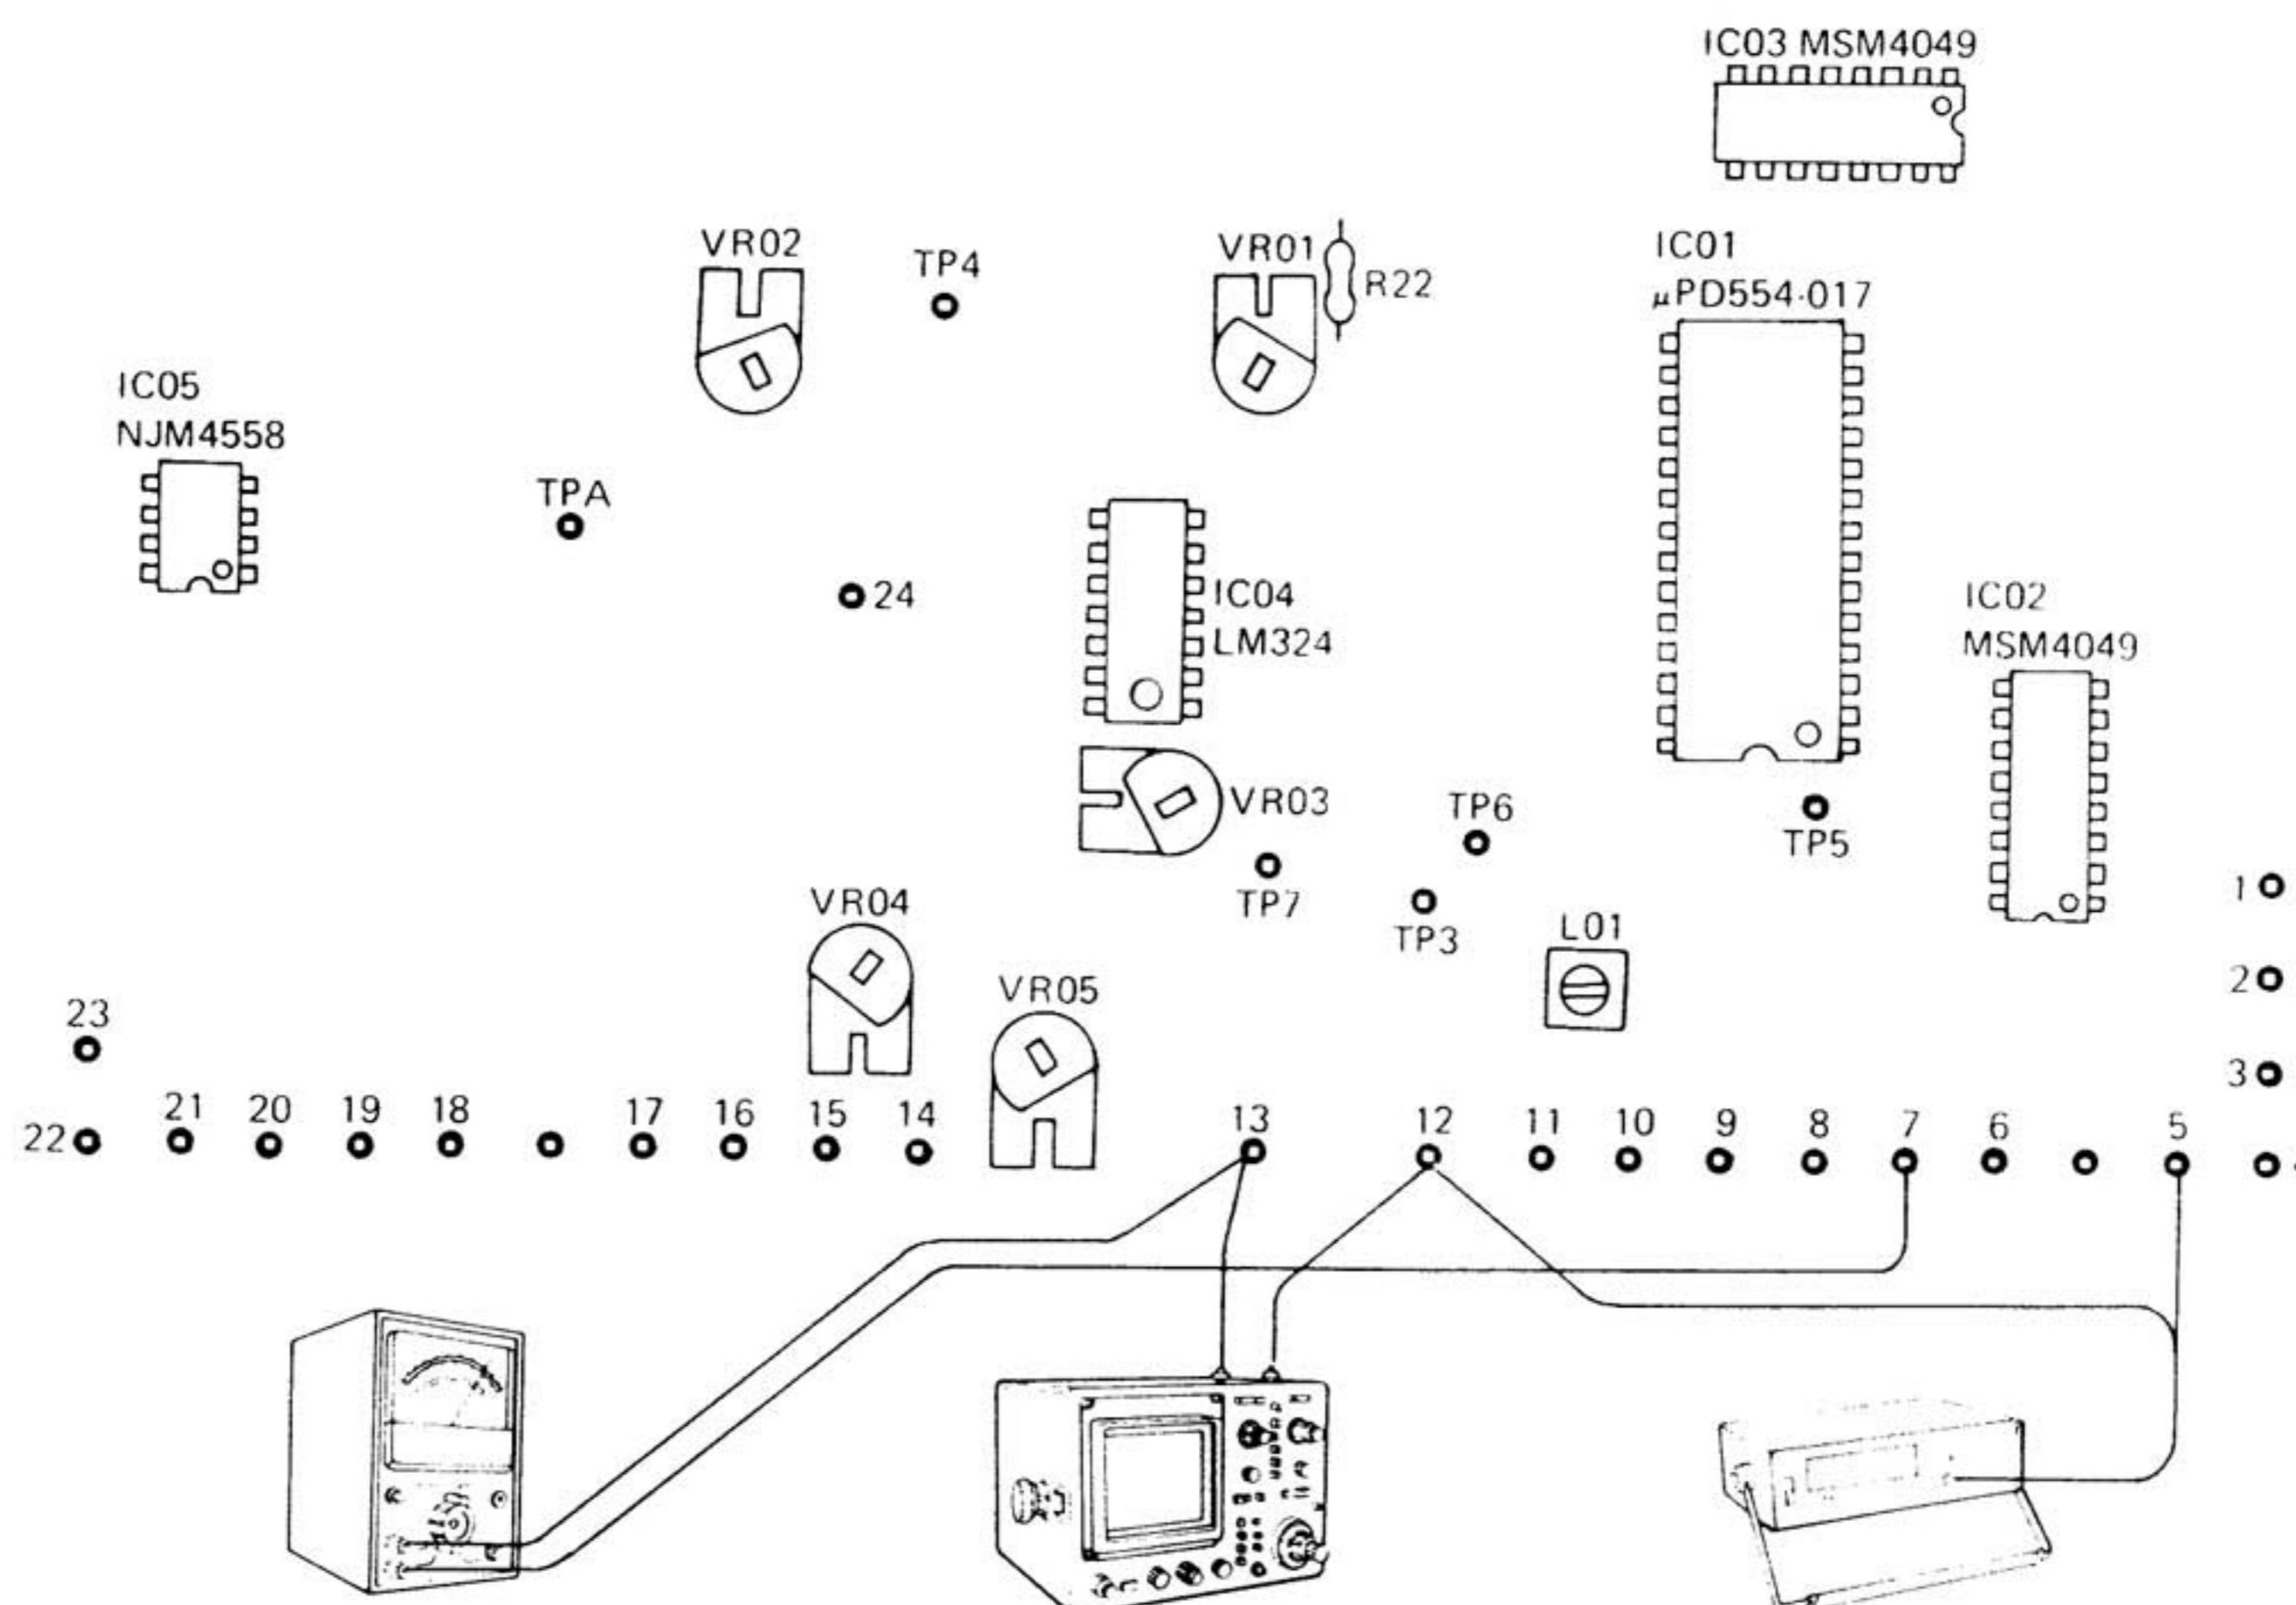

Fig. 20
- Connect the frequency counter to Pin 12 (-) and TP5 (+) on Microcomputed Control P.C.Board. (Fig. 20)
- Connect the synchroscope to Pin 12 (-) and Pin 13 (+) on Microcomputed Control P.C.Board. (Fig. 20)
- Connect a DC VTVM to TP7 (-) in MCP Control P.C.Board and Wrapper Pin 13 (+). (Fig. 20)